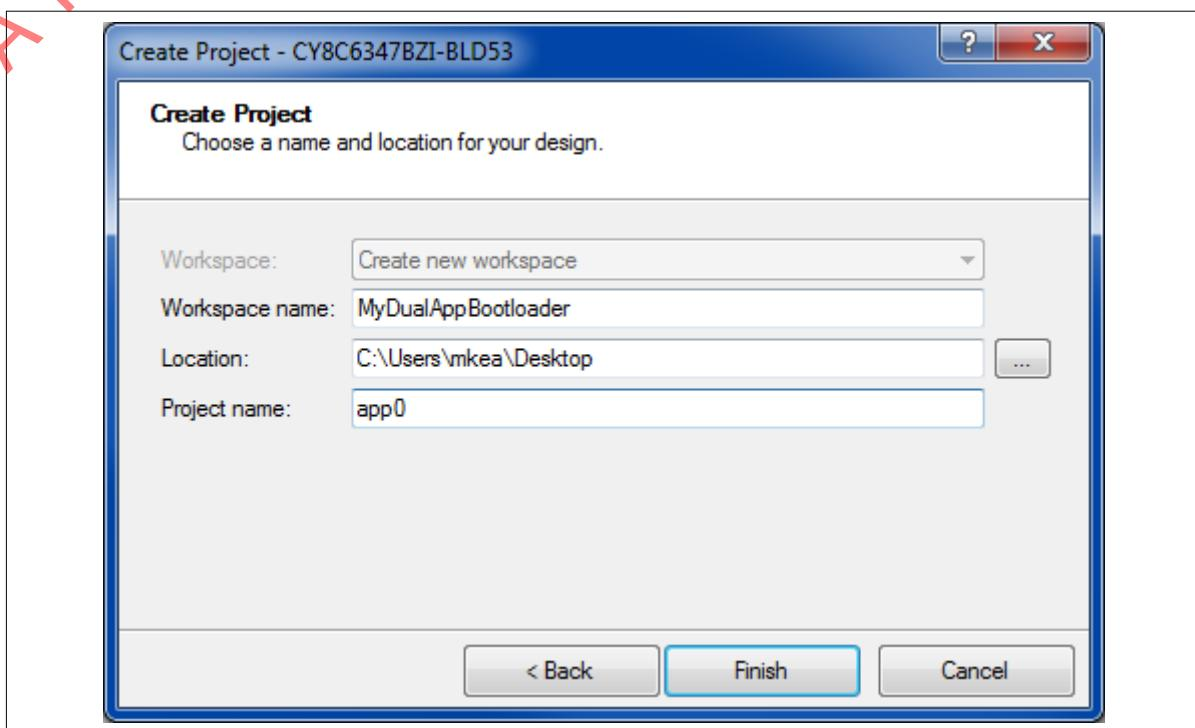

Figure 592 PSoC Creator create dual-application bootloader App
1. Create App0 and the workspace, as Figure 592 shows